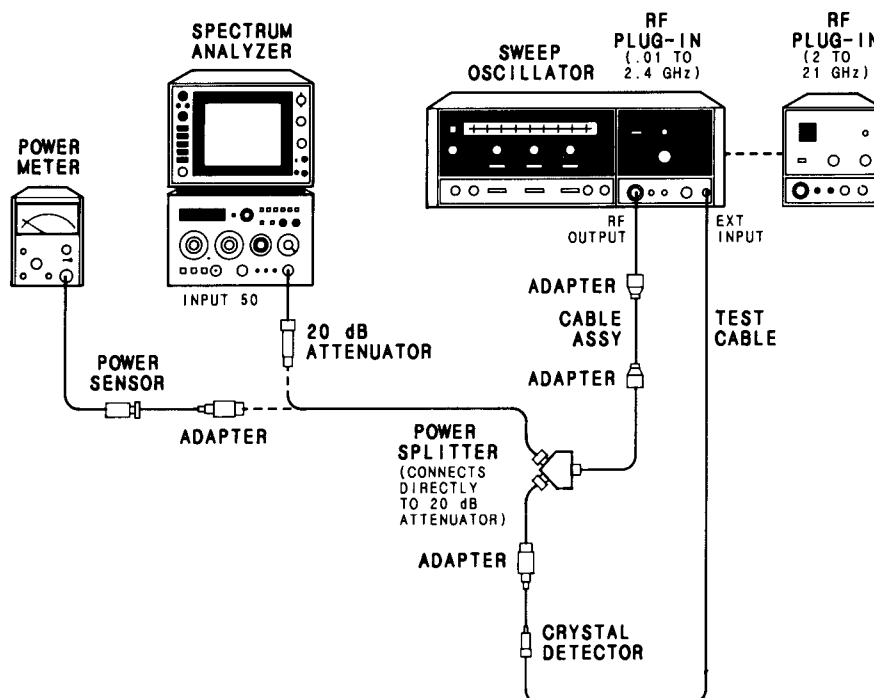

FIGURE 4-14. FREQUENCY RESPONSE TEST SETUP
- Using 0.01 – 2.4 GHz sweep oscillator plug-in, connect equipment as shown in Figure 4-14. Connect output of power splitter, through 20-dB attenuator, to spectrum analyzer input. Turn sweep oscillator RF power ON and adjust ALC GAIN control for levelled output indication.